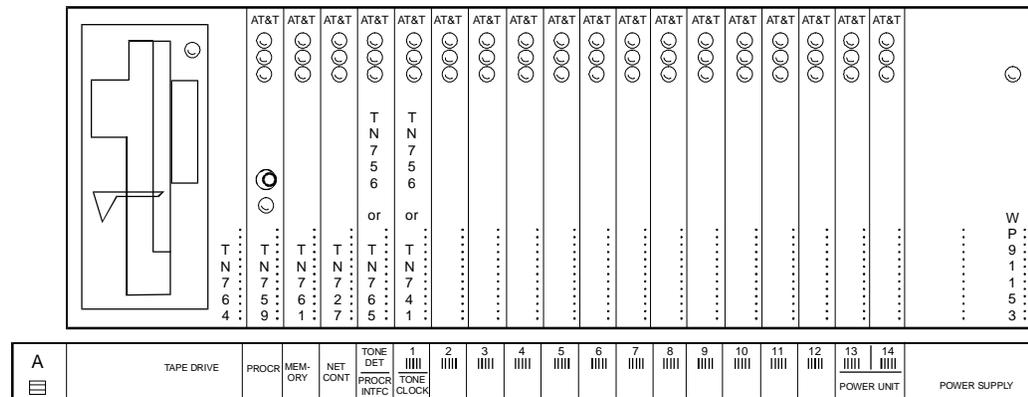

Figure 1-1. Circuit-Pack Locations in System 75 XE Control Cabinet
1. See WARNING. At the J58890G control cabinet, remove the TN741 or TN419A Tone-Clock (if present), the TN759 Processor, the TN761 Memory, and the TN764 Tape Drive circuit pack (see Figure 1-1).